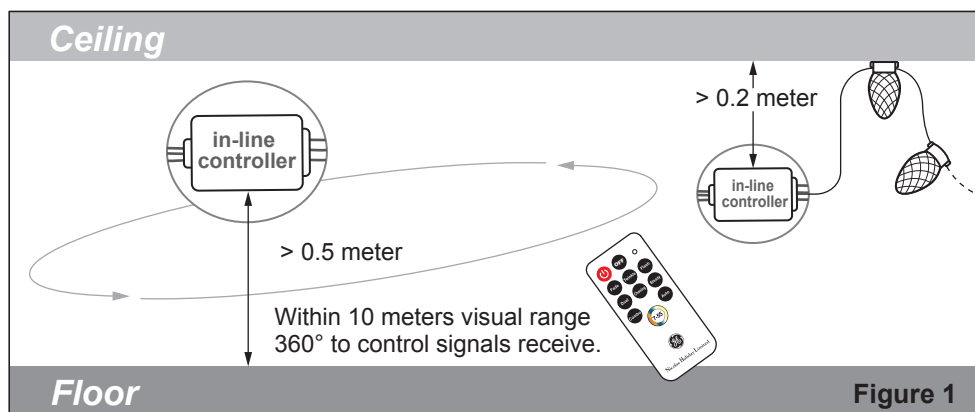

Figure 1
- The control distance is within 10 meters of the visual range, and the in-line controller is required to be installed at 0.5 meters above the ground, or overhead 0.2 meters from the ceiling. (as shown in Figure 1).